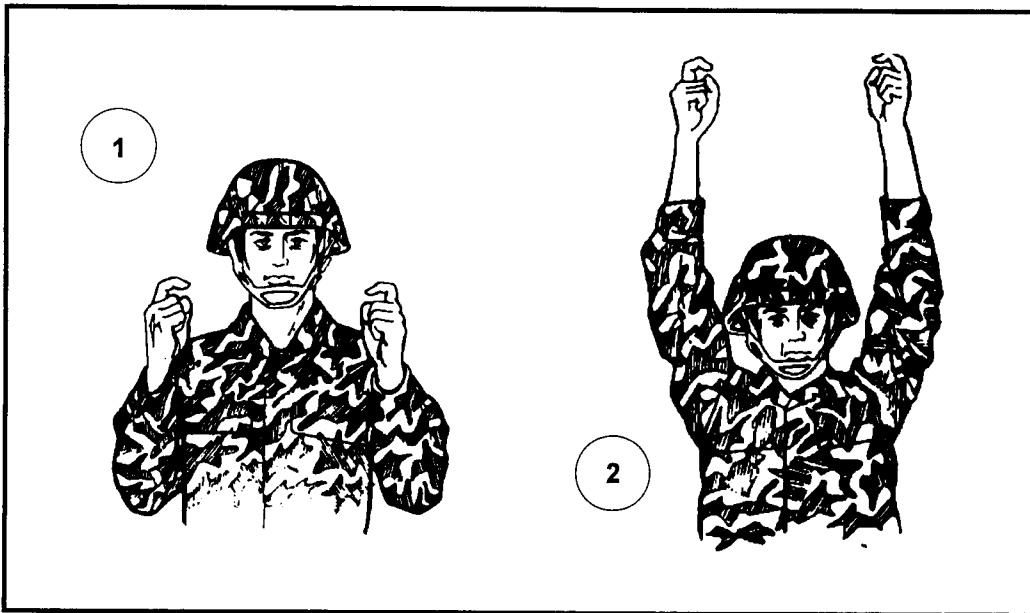

Figure 5-4. HOOK UP.
(1) The JM begins with his arms either extended directly overhead with elbows locked or with arms bent, hands at shoulder level.
(2) He forms a hook with the index finger of each hand. He forms fists with the remaining fingers and thumb of each hand (Figure 5-4).
(3) As he gives the oral command, he move his arms down and up in a pumping motion. He repeats the arm-and-hand signal at least three times.